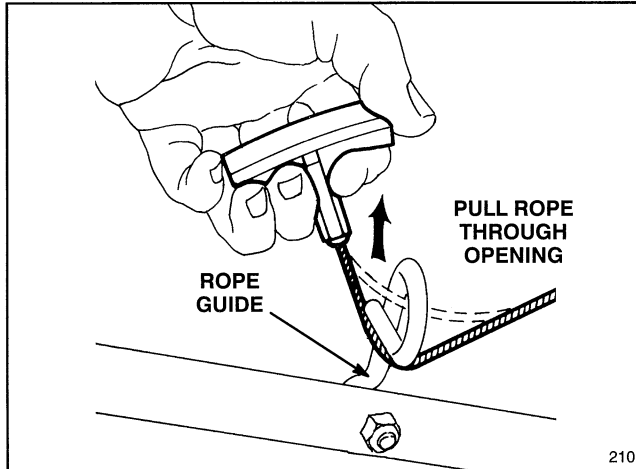
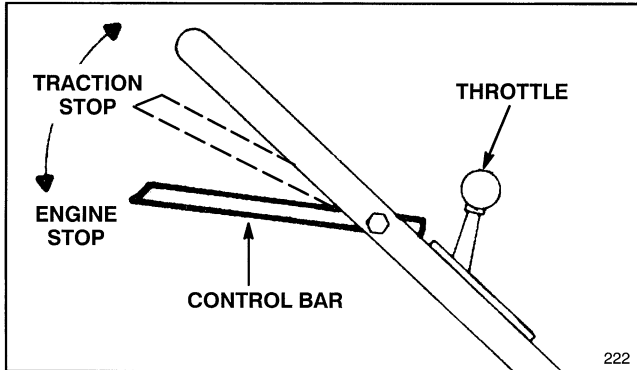
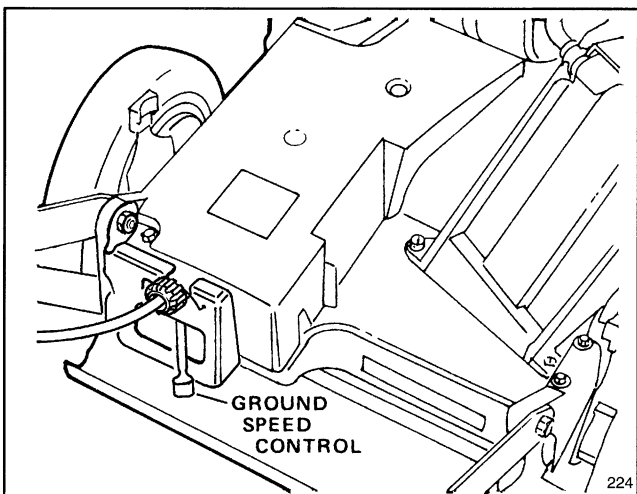

Figure 4
Figure 10
Figure 11
1. Pull starter rope through opening in rope guide (Fig. 4). By squeezing control bar (Fig. 10) against handle, blade brake will release and allow rope to be pulled easily up through rope guide.
1. **CONTROLS**—Throttle control, control bar, and fingertip starter are on upper handle (Fig. 10). Ground speed control is located at rear of belt cover (Fig. 11).